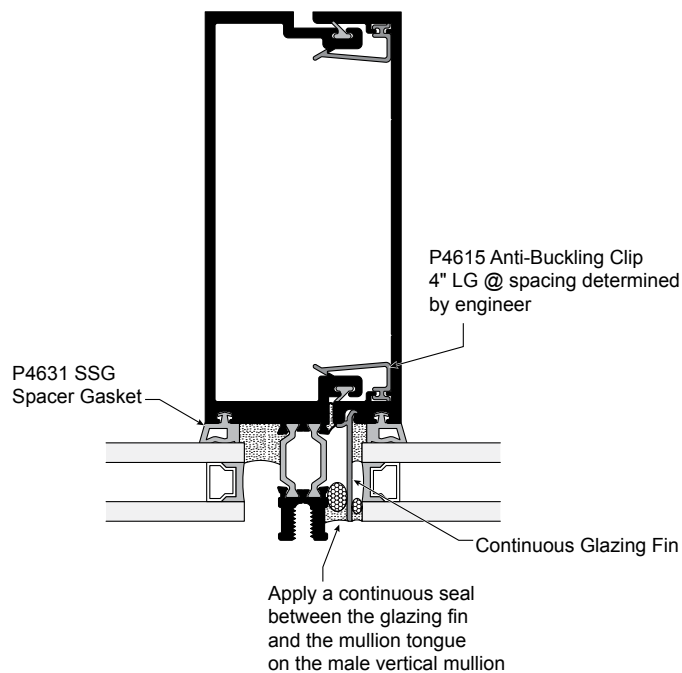

Fig. 39.2
- D. For pre-glazed units, apply a continuous seal between the glazing fin and the mullion tongue on the male vertical mullion half. See **Fig. 39.2**.